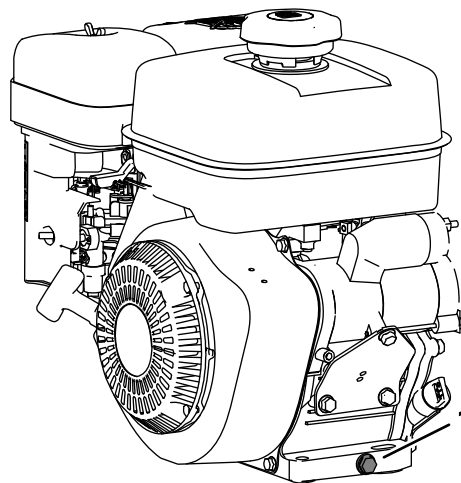

Figure 15
4. Remove the dipstick from the filler neck and look at the oil level in the dipstick (Figure 15).